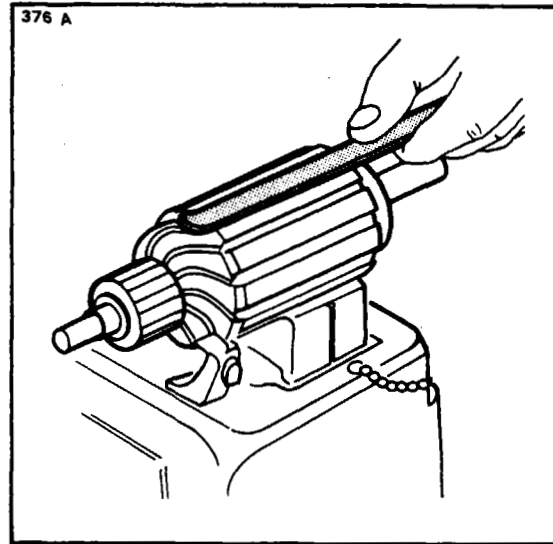

Figure 11-62. Testing Motor Armature for Shorts
c. To test for shorted armature coils, a growler is used. (Refer to Figure 11-62.) The armature is placed on the growler and slowly rotated by hand while a steel strip is held over the core so that it passes over each armature core slot. If a coil is shorted, the steel strip will vibrate.